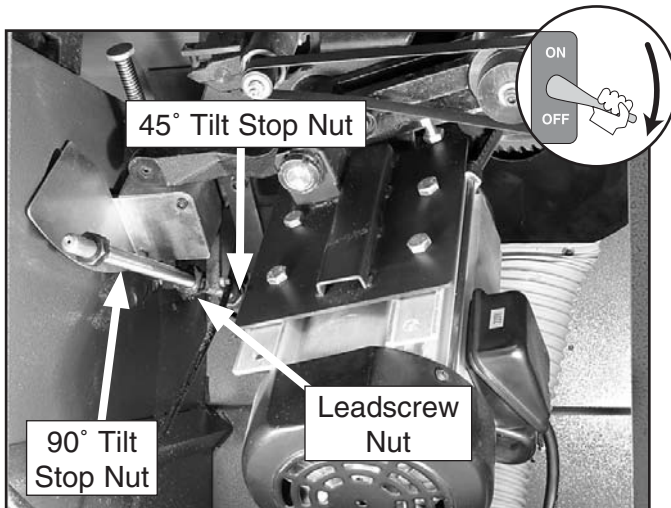

Figure 83. Blade tilt stop nuts.
4. If a gap exists at either the top or bottom of the square, loosen the set screw in the 90° tilt stop nut shown in **Figure 83**.
9. If variations exist, loosen the set screw in the 45° tilt stop nut (**Figure 83**) and adjust the stop nut until the blade and square match.